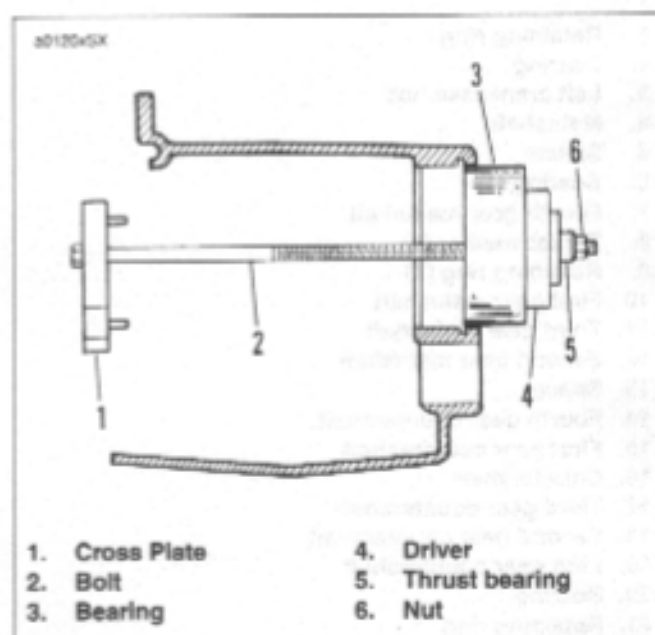

Figure 6-71. Installing Mainshaft Ball Bearing
2. See Figure 6-71. Insert bolt (2) through cross plate (1). new bearing (3), driver (4) and thrust bearing (5). Thread nut (6) on end of bolt. Tighten nut carefully until bearing is started in bore squarely. Tighten nut (6) until bearing is seated against shoulder in bore.